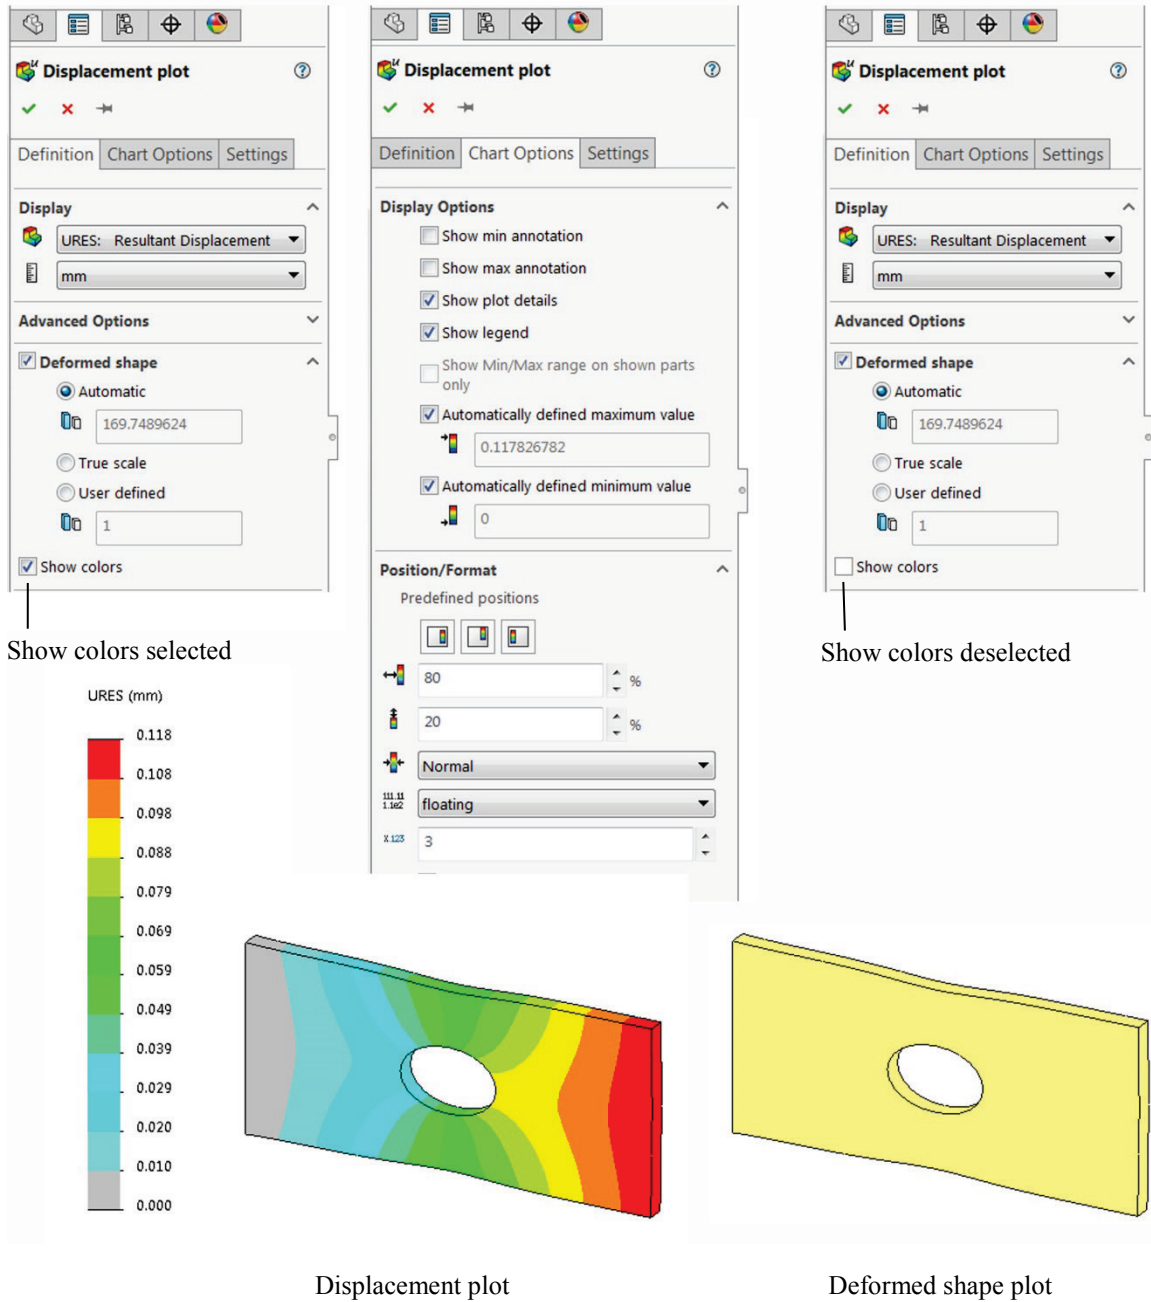

Figure 2-26: Displacement plot (left) and Deformation plot (right).
We now review the displacement and strain results. All of these plots are created and modified in the same way. Sample results are shown in Figure 2-26 (displacement) and Figure 2-27 (strain).
*Colors may be edited in Chart Options (Figure 2-26).*